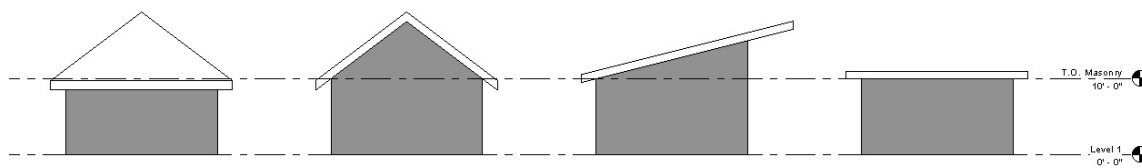

Figure 7-1.13 South elevation – Flat roof
54. Switch to the **South** elevation view (Figure 7-1.13).